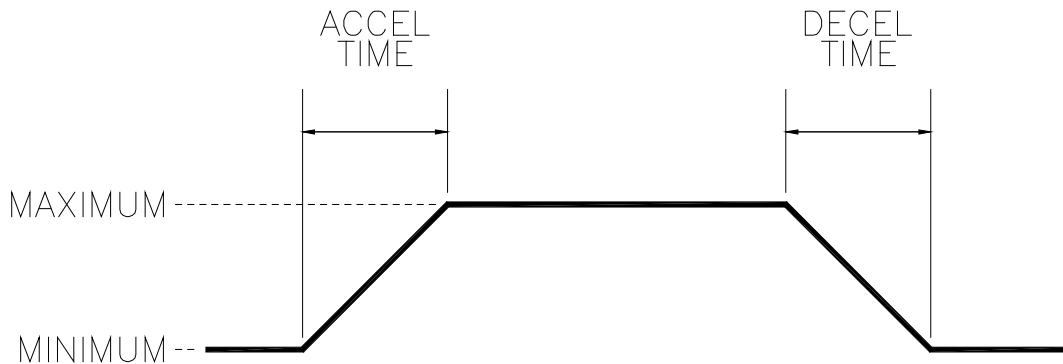

Figure 3: Linear Accel/Decel Adjustment
This adjustment defines the time for the output signal to increase linearly from minimum output to maximum output (10V or 20mA). A fully counter-clockwise (CCW) position defines an acceleration time of 1 second and fully clockwise (CW) is 60 seconds. Refer to **Figure 3** on page 7.
This adjustment defines the time for the output signal to decrease linearly from maximum output (10V or 20mA) to minimum. A fully counter-clockwise (CCW) position defines an deceleration time of 1 second and fully clockwise (CW) is 60 seconds. Refer to **Figure 3** below.